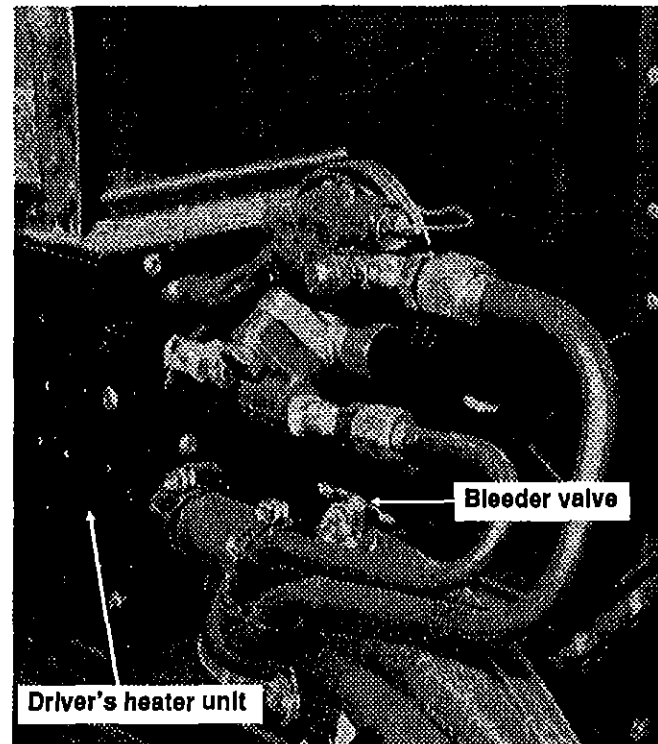

FIG. 26
5. From inside of vehicle, open the bleed valve on the coolant inlet line near the driver's heating unit (see fig. 26) to ensure an efficient draining.